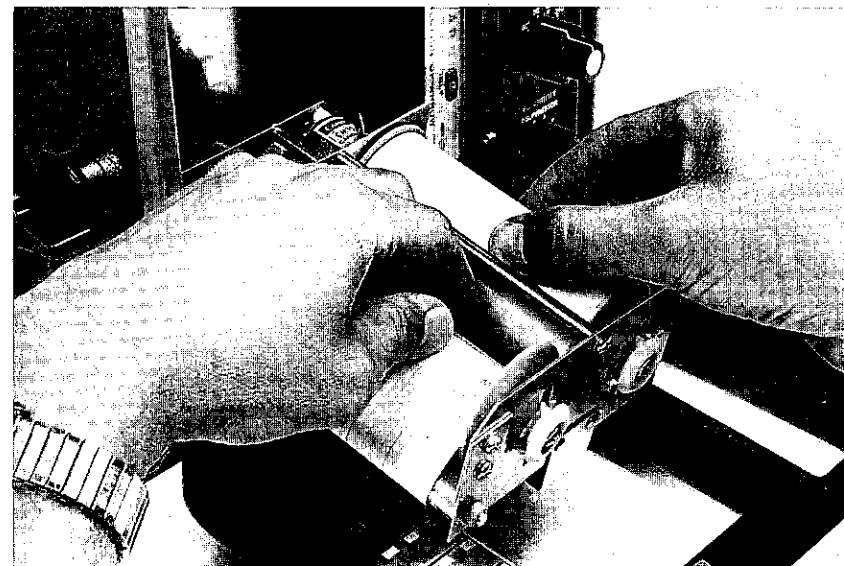

Fig. 31
9. Hold the take-up spool, and turn the supply spool clockwise to put a small amount of tension on the paper. It should be snug against the platen. (See Figure 31.)